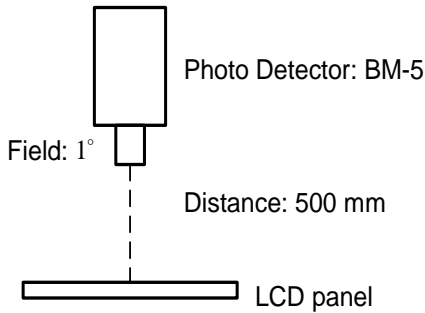

Fig 6.1
- In the dark room less than 100 lx, the equipment has been set for the measurements as shown in Fig 6.1 and Fig 6.3.